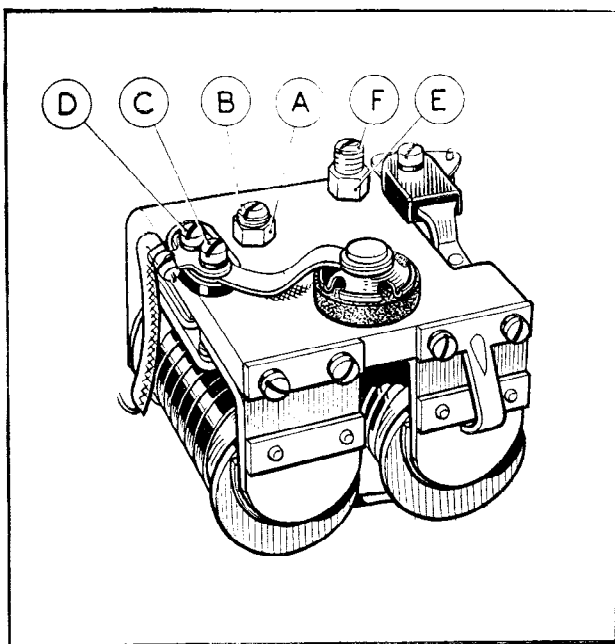

Fig. 5.
Refer to Fig. 5 and release locknut (A) holding adjusting screw (B) and turn the screw in a clockwise direction to raise the setting or in an anti-clockwise direction to lower the setting. Turn the screw a fraction of a turn only at a time and then tighten the
After long periods of service it may be found necessary to clean the regulator contacts. These are made accessible by slackening the screws securing the plate carrying the fixed contact. It will be necessary to slacken the upper screw (C) a little more than the lower (D) so that the contact plate can be swung outwards (see Fig. 5). Clean the contacts with fine carborundum stone or fine emery cloth.